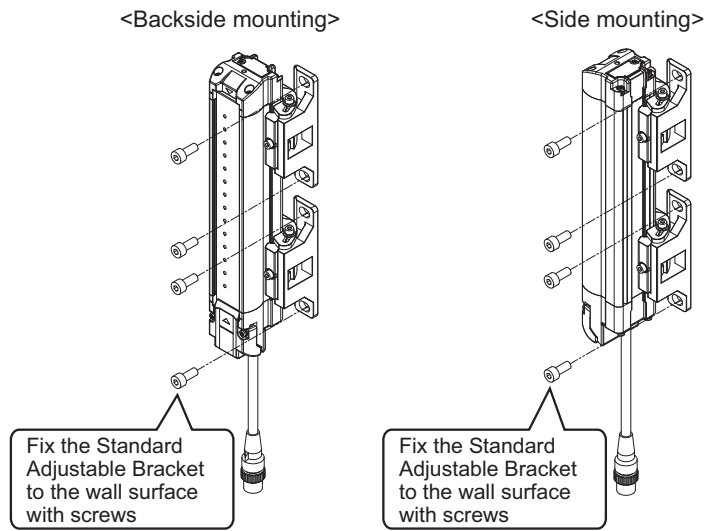

Fig. 4
- Securely tighten screws to fix the Standard Adjustable Bracket to the mounting position of the wall surface. (Fig. 4)